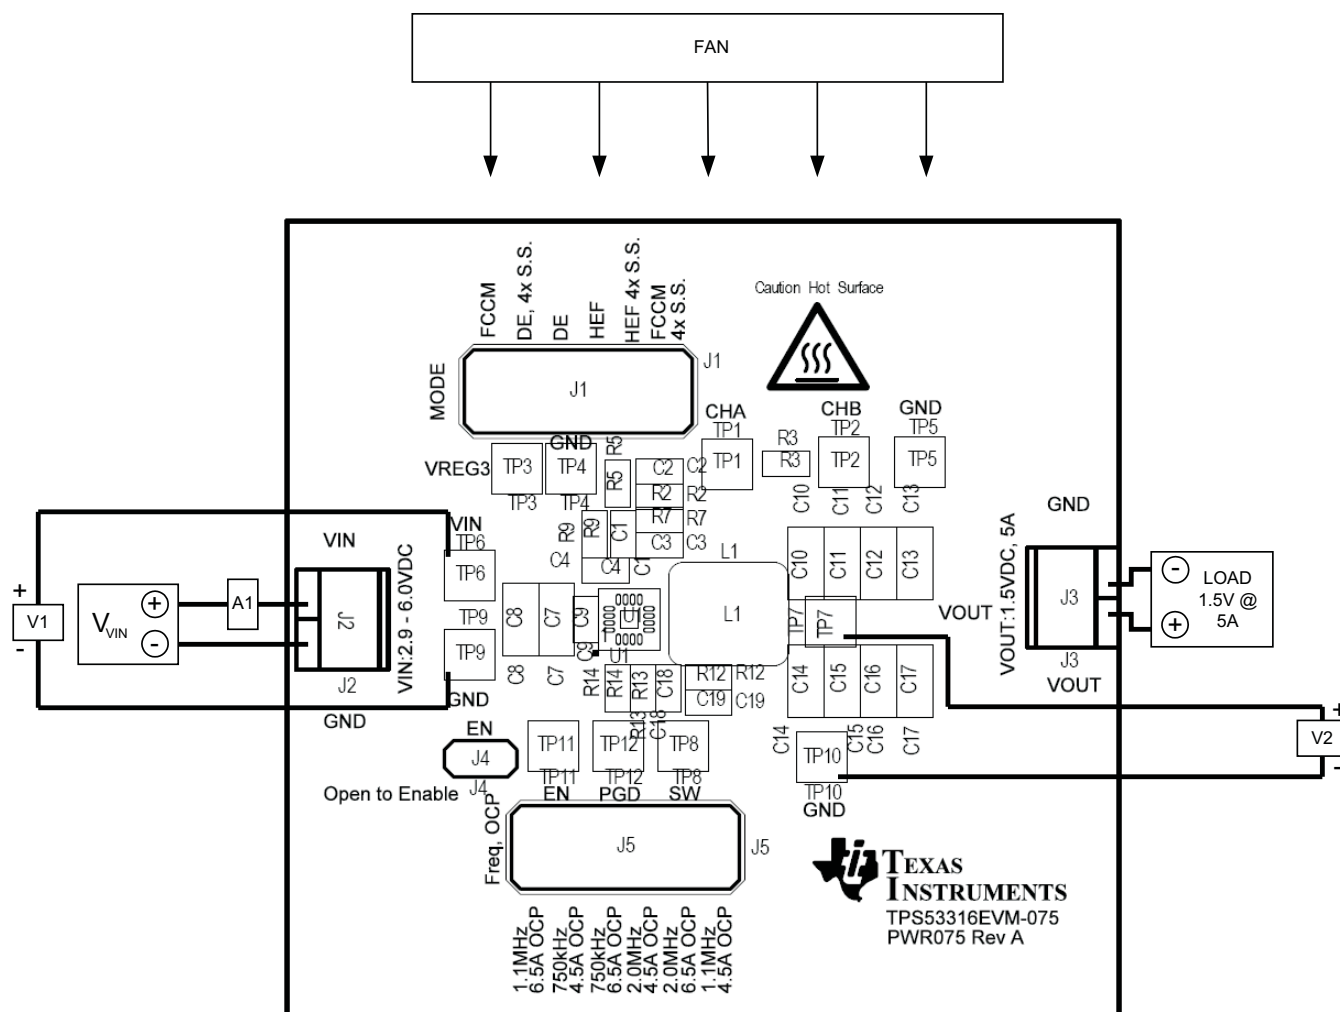

Figure 3. TPS53316EVM-075 Recommended Test Set Up
Voltage Source, VIN: The input voltage source VIN should be a 0-V to 6-V variable DC source capable of supplying 5 A_{DC}. Connect VIN to J2 as shown in Figure 3.
Figure 3 is the recommended test set up to evaluate the TPS53316EVM-075. Working at an ESD workstation, make sure that any wrist straps, bootstraps or mats are connected referencing the user to earth ground before power is applied to the EVM.
1. Prior to connecting the DC input source VIN, it is advisable to limit the source current from VIN to 5 A maximum. Make sure VIN is initially set to 0 V and connected to J2 as shown in Figure 3.
Other Connections: Place a Fan as shown in Figure 3 and turn on, making sure air is flowing across the EVM.
1. Set up EVM as described in Section 5 and Figure 3.